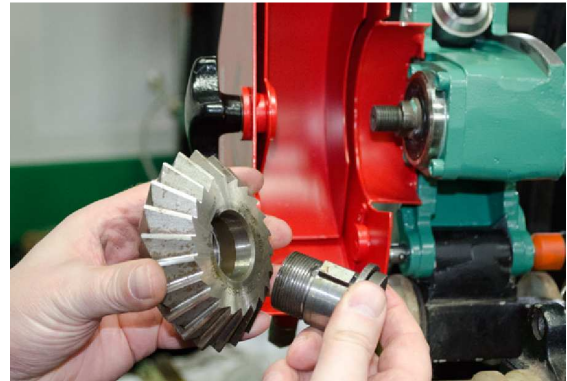
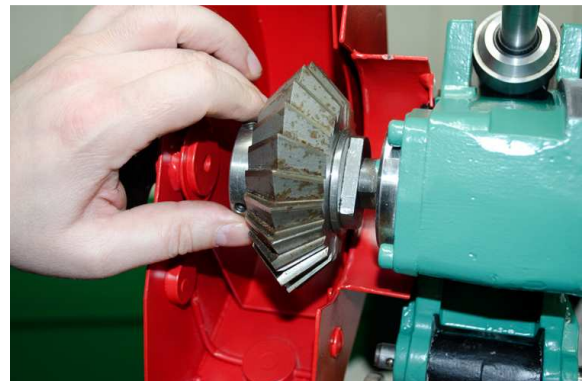

Fig. 10.2
Fig. 10.4
- Mount the bevelling tools complete with the adapter (see fig.10.2 – fig. 10.4).